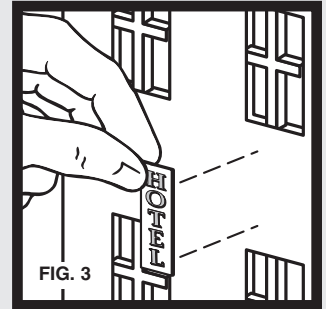

FIG. 3
- Glue sign to desired building. See photo and illustration for suggested placement (**Fig. 3**).